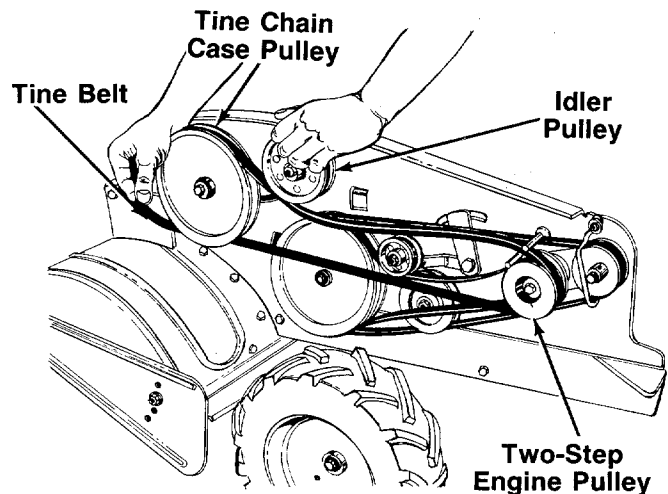

FIGURE 22.
2. To remove the tine belt, lift up on the idler pulley, and slip belt off tine chain case pulley as shown in figure 22. Remove belt from the two-step engine pulley.